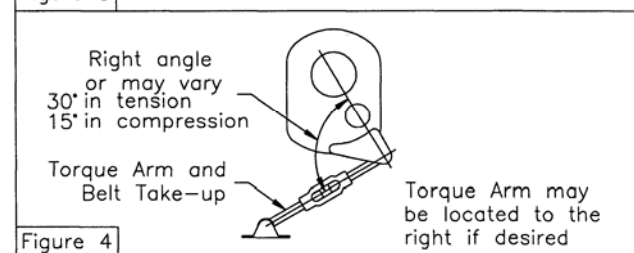

Figure 4
7. Install torque arm fulcrum on a flat and rigid support so that the torque arm will be approximately at right angles to the center line through the driven shaft and the torque arm anchor screw. (See Fig. 4) Make sure that there is sufficient take-up in the turnbuckle for belt tension adjustment when using V-belt drive.